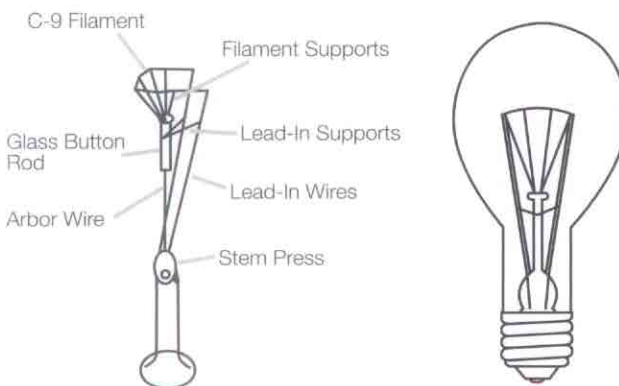

Figure 10. Typical Vibration Service Lamp
- *Vibration Service* lamps are intended for applications subject to “low amplitude/high frequency” vibrations like those produced by high-speed machinery or in subway stations. Standard coiled-coil tungsten filaments, used for general service incandescent lamps, have a crystal structure that resists sagging but breaks easily when continuously shaken. Vibration lamp filament wire is made with a specially blended tungsten, which is flexible, sags and will not break when subject to vibration. Since the wire is allowed to sag, more supports are necessary (Figure 10). With these extra supports, heat losses increase, so efficacy decreases. Horizontal burning is not recommended, since the coil segments are likely to sag together which then results in poor lamp life.